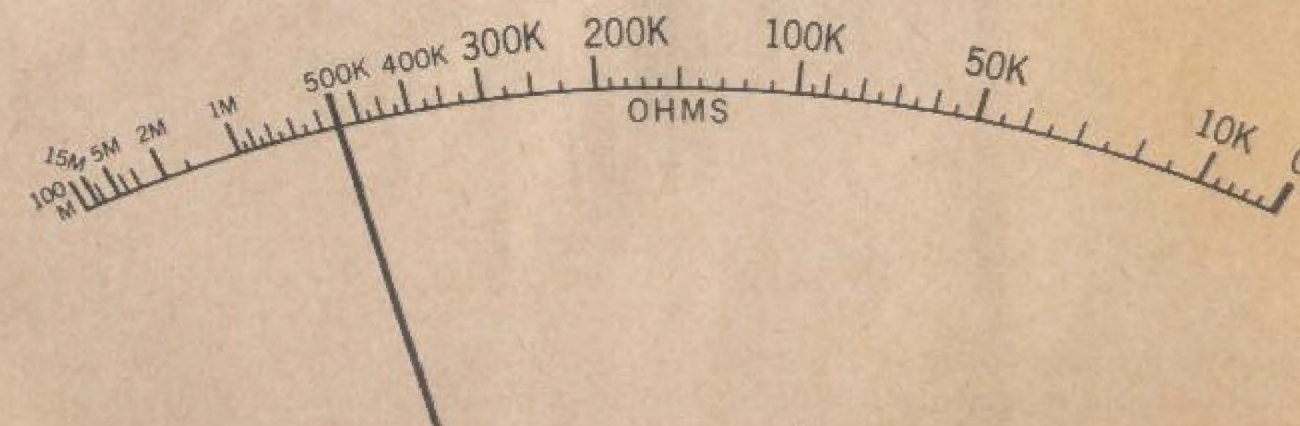

Figure 20—100 Meg Ohm Scale
6. If we were measuring a component whose resistance causes the meter to read one small division above the 500K mark on the 100M ohm scale, the resistance value would be 550K (550,000) since each division between 500K and 1M represents 50K ohms. This is shown in Fig. 20.